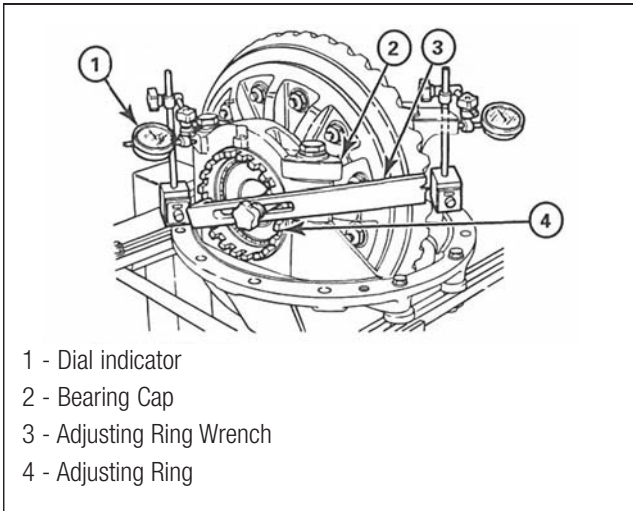

Fig. 2.92
1. Place two dial indicators in central and crossways positions onto the outer machined faces of the caps. Fig. 2.92